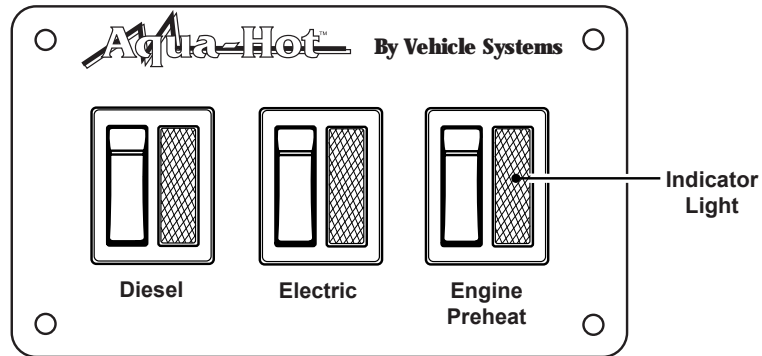

Figure 2
Turn the **Diesel** switch **ON**, reference **Figure 2**. This procedure will activate the Diesel-Burner and the indicator light located on the Diesel switch. Allow 10-20 minutes for the Aqua-Hot System to reach operating temperature. Please note that the Diesel-Burner is the **primary heat source** for heating both the interior and the domestic hot water (such as when cool ambient temperatures exist and/or when there is a high demand for domestic hot water).
Turn the **Electric** switch **ON**, reference **Figure 2**. This procedure will activate the 120 VAC Electric Heating Element and the indicator light located on the Electric switch. Allow 1-2 hours for the Aqua-Hot System to reach operating temperature. Please note that the Electric Heating Element is a **secondary heat source** for heating both the interior and the domestic hot water during low heating demand situations (such as when moderate ambient temperatures exist and/or when there is a low demand for domestic hot water).
- A.** Turn the Aqua-Hot's **Engine Preheat** switch **ON**, reference **Figure 2**. This procedure will activate the Engine Preheat Circulation Pump and circulate the engine's coolant through the Engine Preheat System. This feature will adequately warm the engine for easy start-ups on cool mornings.